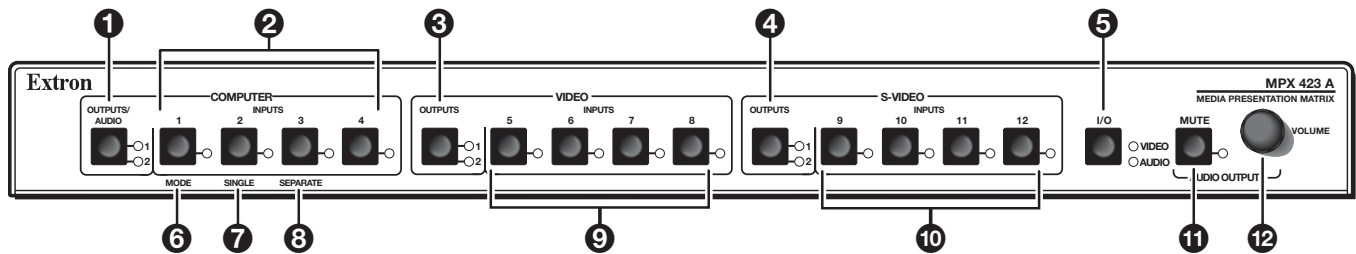

Figure 5. MPX 423 A Matrix Switcher Front Panel
- ⑥ **Mode button** — This is the secondary function of this button (see figure 5, ②, computer (VGA) input buttons) on the previous page). The mode function of this button allows the MPX 423 A to be used in either “single” or “separate” mode.
- ⑦ **Single switcher mode button** — This is the secondary function of this button (see ②). Press and release this button when in “switching mode” (see Switcher Modes and Operation on page 9) to select the single switcher mode. The associated LED indicates if the single switcher mode is on (when blinking). When the **Mode** button is released, the LED resumes input indication.
- ⑧ **Separate switcher mode button** — This is the secondary function of this button (see ②). Press and release this button to select the separate switcher mode. The associated LED indicates if the separate switcher mode is on (when blinking). When the **Mode** button is released, the LED resumes input indication.
- ⑨ **Composite video input buttons and LEDs** — Buttons 5 through 8 select the input for the composite video sections of the MPX unit. The LEDs adjacent to each button (when lit) indicate which input has been selected for output.
- ⑩ **S-video input** — Buttons 9 through 12 select the input for the S-video group of the MPX unit. When lit, the LEDs adjacent to each button indicate which input has been selected for output 1.
- ⑪ **Audio output mute button and LED** — This button mutes audio output 1. When lit, the LED indicates that audio output 1 is muted.
- ⑫ **Audio output volume knob** — This adjustment knob controls the volume of audio output 1.
In separate switcher mode the switcher emulates three 1-output switchers with 4 inputs. There are three input selection groups on the front panel (figure 5 on page 8):